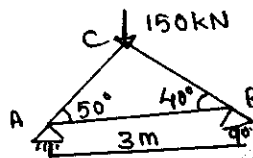

Fig.Q5(b)
b. Determine the vertical deflection of joint C of the truss shown in Fig.Q5(b). Take $E = 200 \times 10^6 \text{ kN/m}^2$ and cross sectional area of each bar as $150 \times 10^{-6} \text{ m}^2$. (08 Marks)